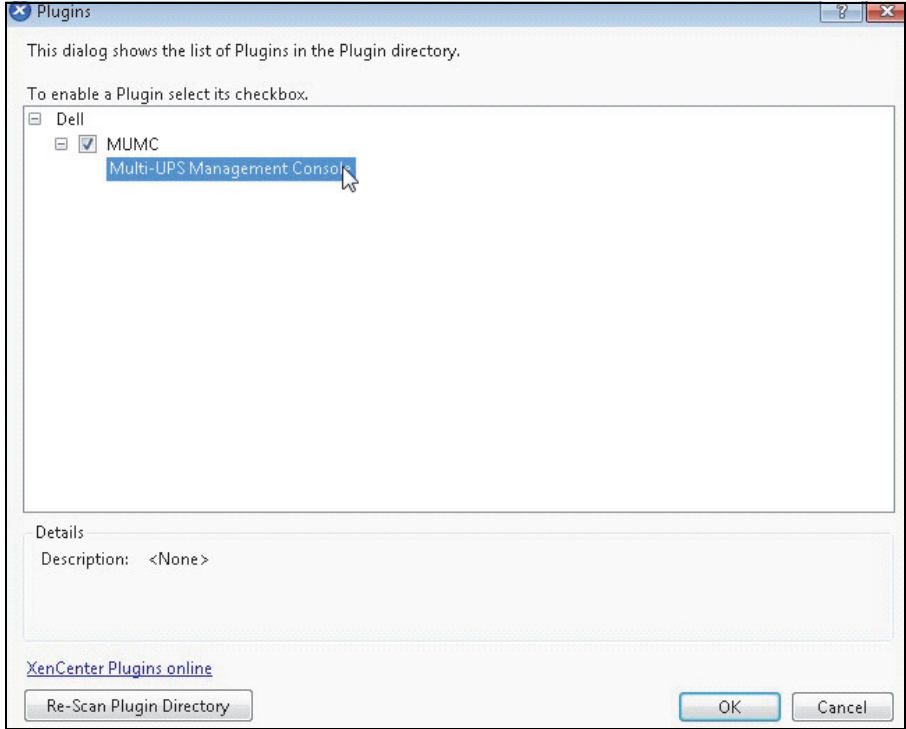

Figure 97. Plugin Directory (Rescan)
- If not, click **Re-scan Plug-in Directory** (see Figure 97).